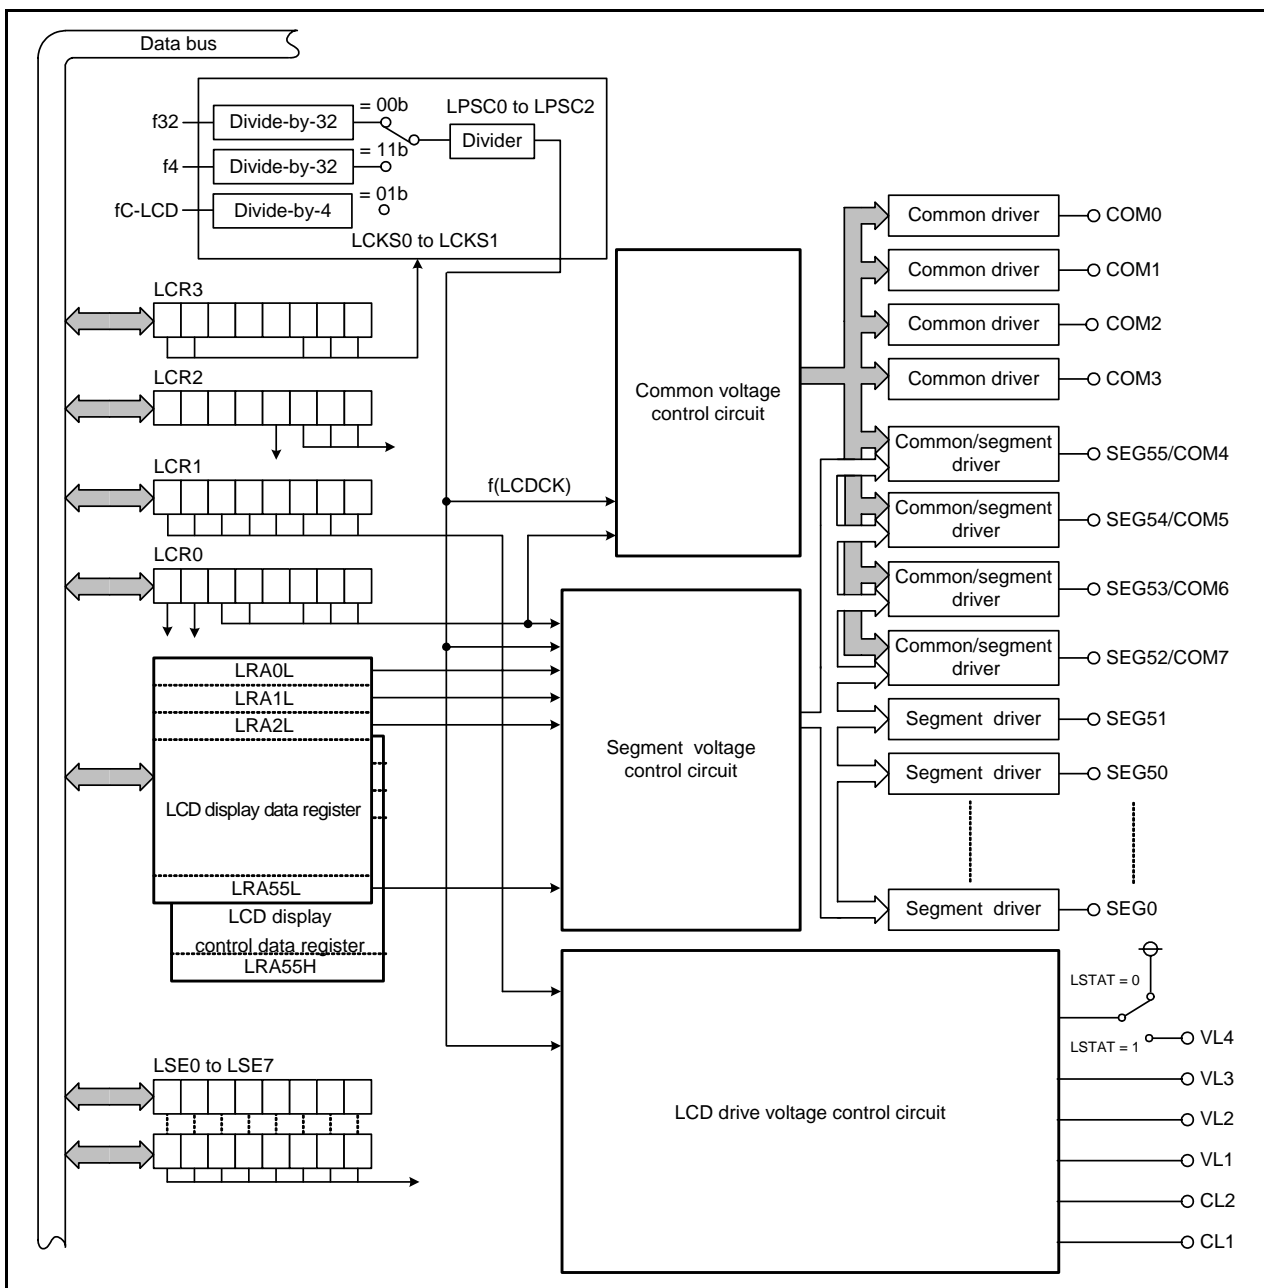

Figure 33.1 Block Diagram of LCD Drive Control Circuit
Table 33.2 lists the Specification Overview of LCD Drive Control Circuit (1) and Table 33.3 lists the Specification Overview of LCD Drive Control Circuit (2). Figure 33.1 shows a Block Diagram of LCD Drive Control Circuit.